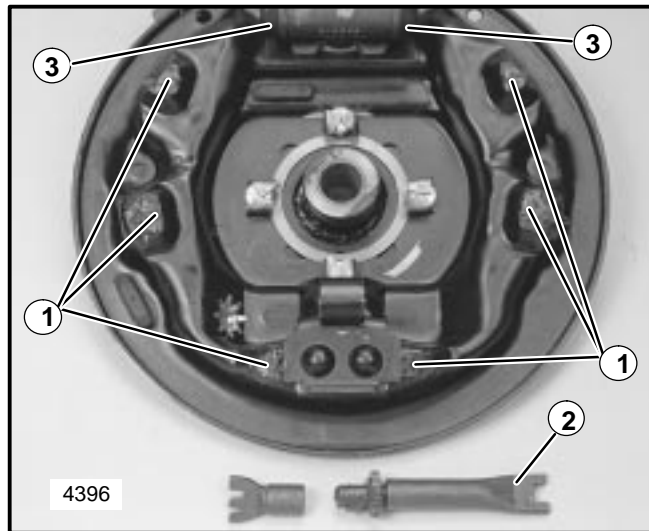

FIGURE 7
the wheel cylinder. Fluid present in the boot area indicates a leaking wheel cylinder. Refer to Figure 7.
4. Apply a thin layer of high temperature lubricant to the brake backing plate where the brake shoes make contact (6 places) and brake adjuster. See Figure 7.